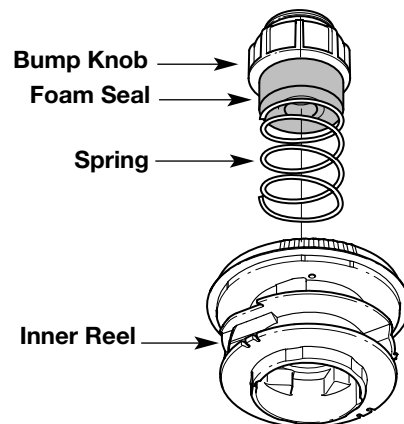

Fig. 21
1. Turn the bump knob counterclockwise and remove the bump knob, spring and foam seal (Fig. 21).
2. Pull out the bump knob, spring and foam seal (Fig. 21).
7. Place the bump knob, spring and foam seal onto the inner reel (Fig. 21).